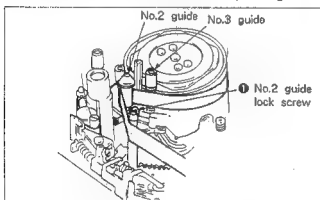

Fig. 7-67.
- 1) Play back the alignment tape (WR5-1C) for tracking and loosen No.2 guide lock screw ①, and rotate No.2 and No.3 guides counterclockwise to free tape running on the entrance side (See Fig. 7-67.)
- 7) Tighten No.2 guide lock screw ①. (See Fig. 7-67.)